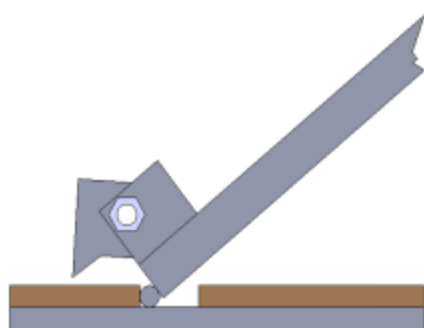
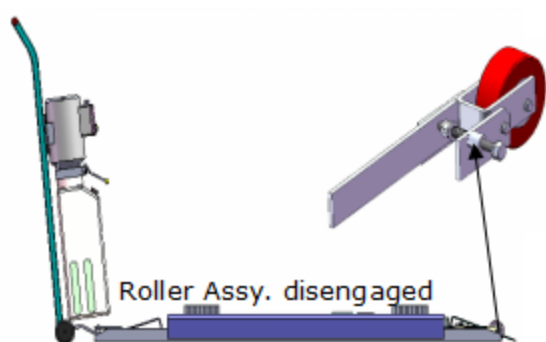

Fig.15
Fig. 17
2. The roller must be disengage when lifting vehicle (**See Fig.17**). To raise and lock the lift: Press the button up till the lift is raised to the required height and the locks are in engaged (**See Fig.15**), then push release handle of the power unit, the lift would be locked.